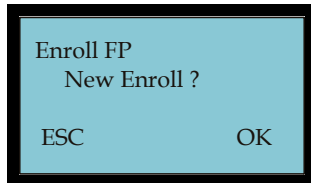

Figure 2-63 New Enroll FP Screen
4. Press **OK** and Enroll FP New Enroll? will appear (see **Figure 2-63**).